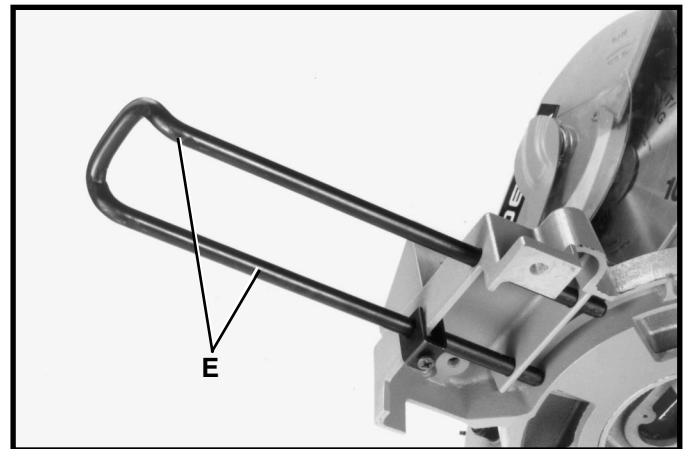

Fig. 7
3. Assemble left hand table extension (E) Fig. 7, in the same manner.